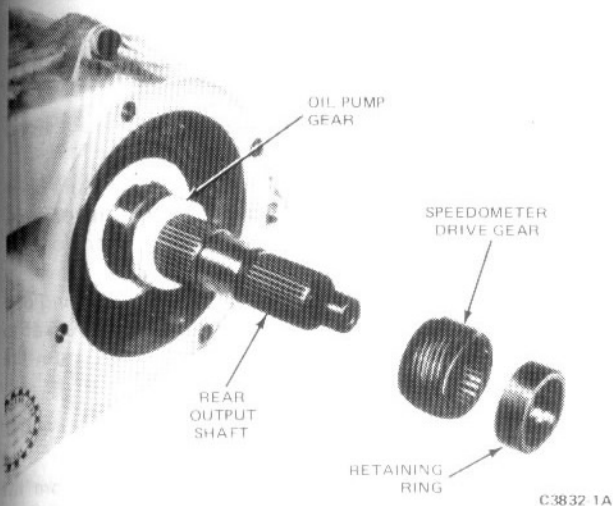

FIG. 6 Speedometer and Oil Pump Assemblies
5. Remove the retaining ring, speedometer drive gear, nylon oil pump housing, and oil pump gear from the rear output shaft (Fig. 6).